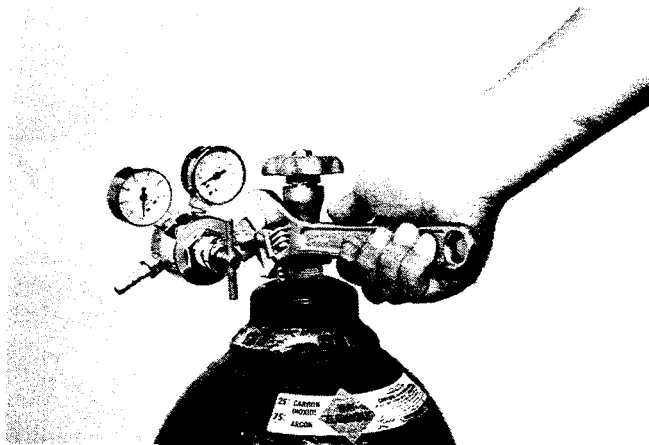

Figure 14
- Clean the regulator inlet filter and outlet fitting of dirt and other material. Attach the regulator to the valve and snug-up the connection with a wrench. Keep the regulator vertical so that the faces can be seen at a glance. See Figure 14. Check for leaks with soap water.